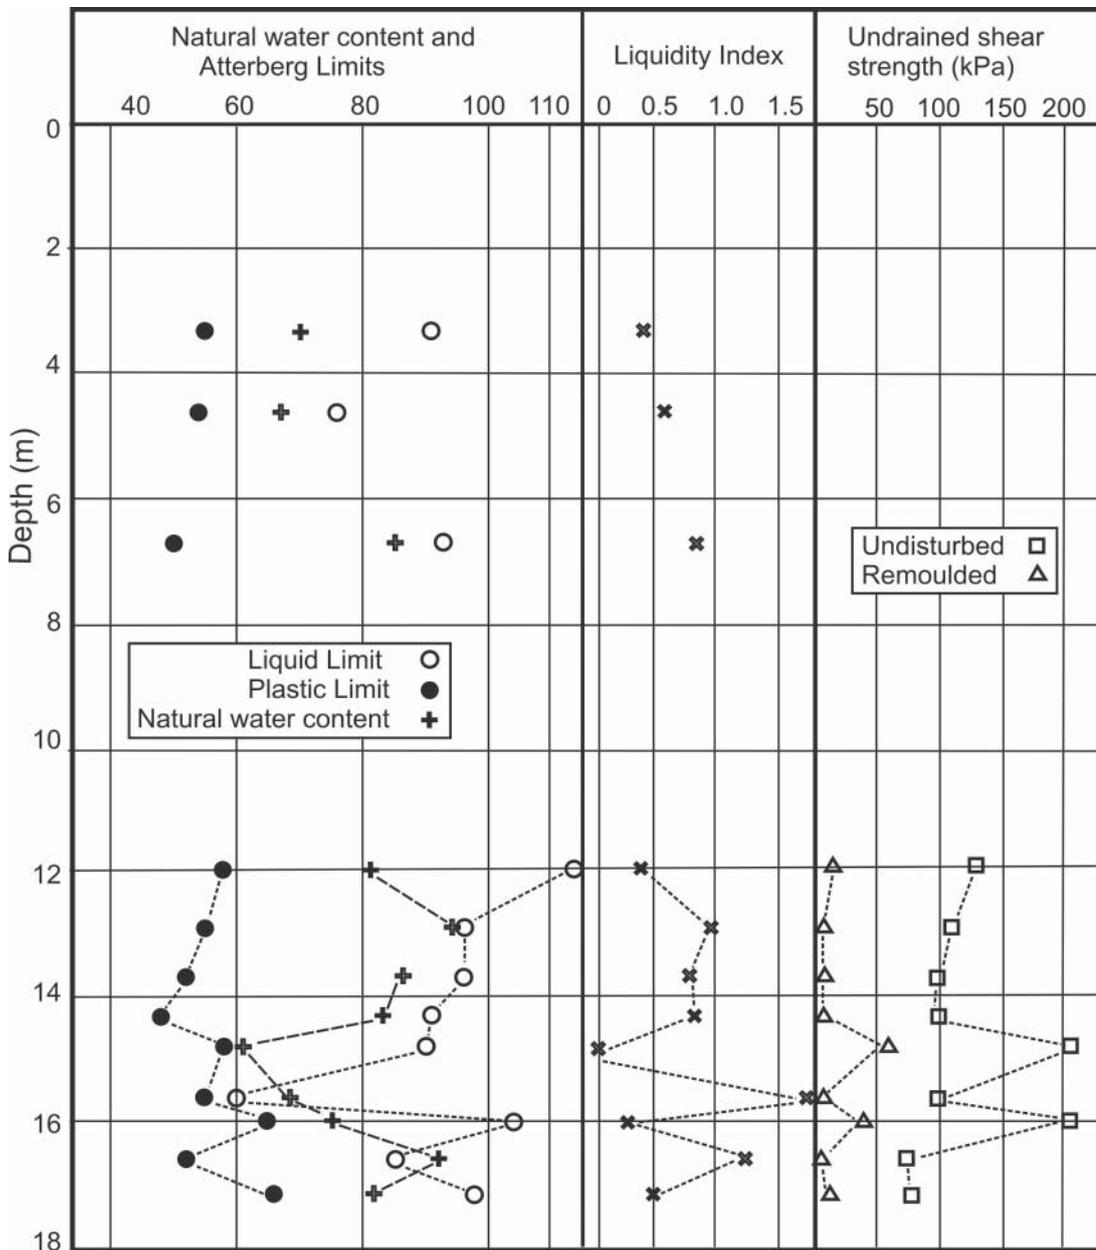

Figure 4. Results of tests on disturbed samples, plotted against depth.
1. In Figure 4 the results are plotted against vertical depth below the highest point, this being the crest of the scarp at the upper slip. Plotted in this way the vertical distance between the samples is quite small, although when taken the distance between samples was much greater because of the angle of the slope. Samples S1 to S3 were from the upper slip and S4 to S13 from the lower slip. The top sample from the main slip, S4, was non-plastic sandy silt; only natural water content and particle size measurements were made on this soil. It is believed to be from a layer called the Rangitawa formation. The dip of the layers is not known.